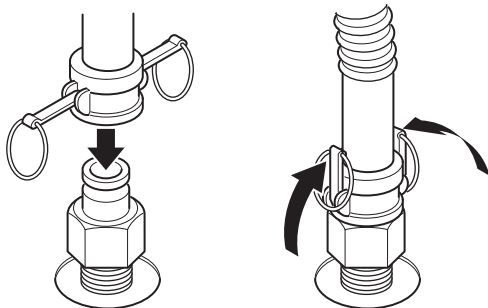

Figure 6 To Connect the Waste Outlet Hose
1. To Install the Docker and Connect Utilities (Figures 6 and 7)